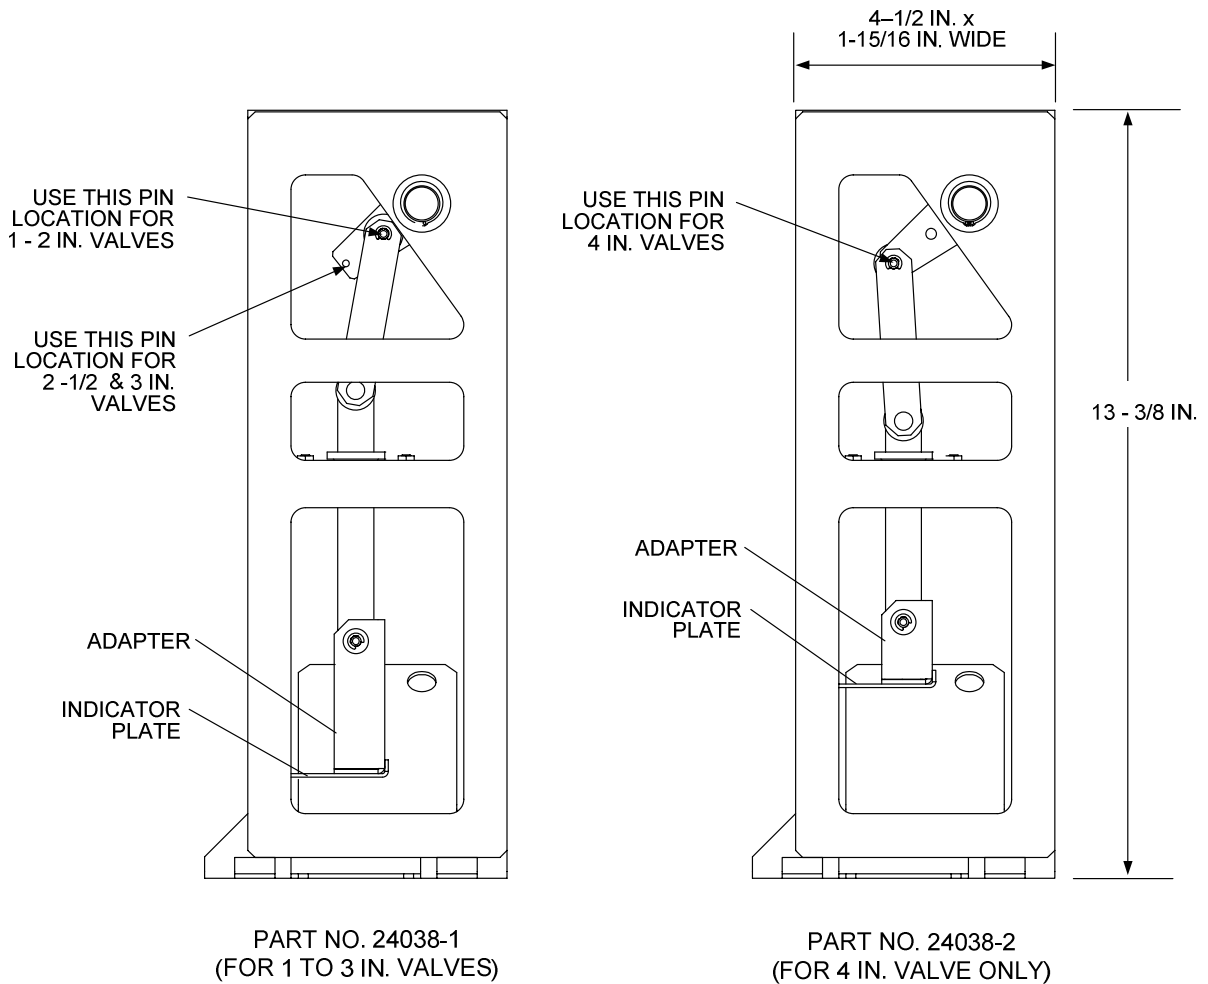

Figure 4-1. Linkage Assemblies Part No. 24038-1 & 24038-2
Identical Actuator Assemblies, part no. 69009 are used on all AERCO Control Valve sizes from 1 inch to 4 inches. However, there are two types of Linkage Assemblies designated part no. 24038-1 and -2 used with different sizes of AERCO Control Valves. Linkage Assembly, part no. 24038-1 is used on AERCO Valve sizes ranging from 1 inch to 3 inches. The 24038-2 Linkage Assembly is used only on 4 inch Valves. The primary difference between these two assemblies is the Linkage Assembly Adapter shown in Figure 4-1. In addition, the linkage pin location for 24038-1 assemblies will vary for 1 to 2 inch Valves and for 2 ½ to 3 inch Valves as shown in the upper portion of Figure 4-1.
1. Check to ensure that the correct Linkage Assembly and Adapter are provided for the valve size being retrofitted (Figure 4-1). Also, ensure that the Linkage pin is inserted in the correct location for this valve size.